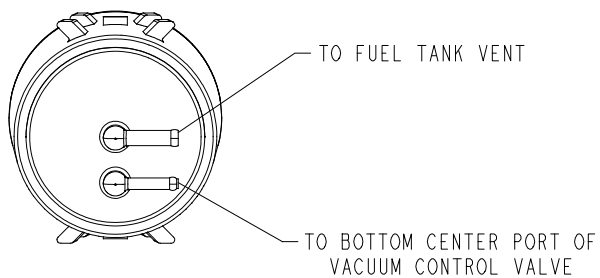

Figure 15
A. If hoses are removed from the carbon canister or vacuum control valve, note hose location for assembly purposes. Figures 15 and 16 identify hose location.